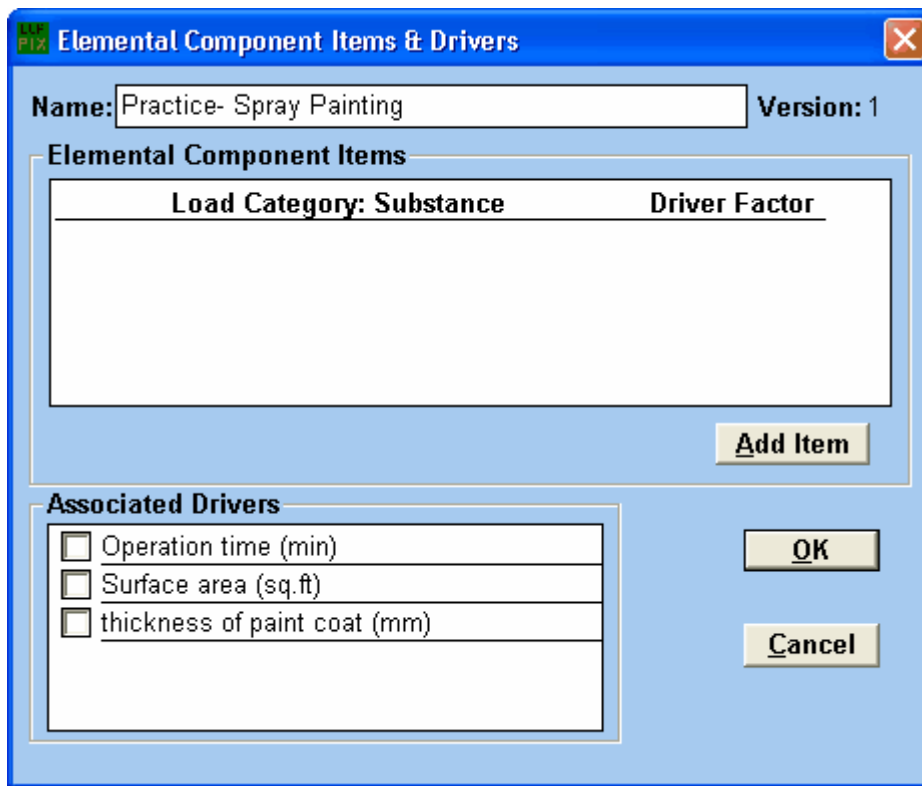

Figure 39: Associating the Load Category - Substances to the Elemental Component process.
9. The next step now is to enter the information about the Load Category Substances. This is achieved by clicking on the **ITEMS** button shown in Figure 38. Doing so will spawn a window as shown in Figure 39.